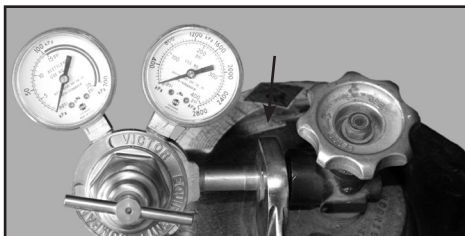

Figure 3
1. Carefully inspect the regulator for damaged threads, dirt, dust, grease, oil, or other flammable substances. Remove dust and dirt with a clean cloth. Be sure the inlet swivel filter is clean and in place. Attach the regulator to the cylinder valve. Tighten securely with a wrench (See Figure 3).